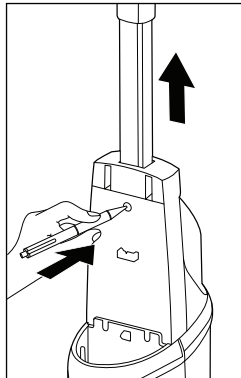

Fig. 2
- If you want to remove the hand element **1** from the appliance, you must first remove the fresh water tank **11** from the appliance to reach the catch of the hand element **1** (see section **Filling the fresh water tank**). Once you have removed the fresh water tank **11**, press the catch on the hand element **1** out of the catch opening with a pointed object. You can then pull the hand element **1** back out of the appliance (see fig. 2).